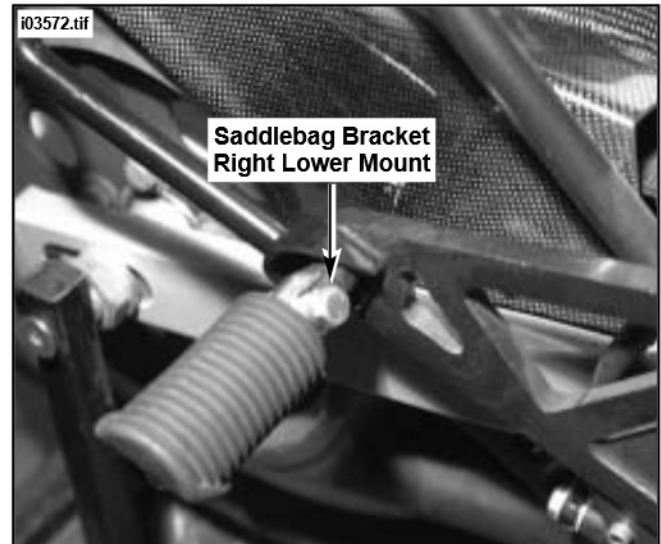

**Figure 3. Install Clamps To Secure Mounting Bracket to Frame (Rear View)**
- c. See Figure 3. Obtain two of the screws used to secure the tail section to frame (removed in Step 4), and temporarily secure (partially thread screws) the front portion of the saddlebag bracket to the frame as shown. This will keep the mounting bracket aligned during installation.